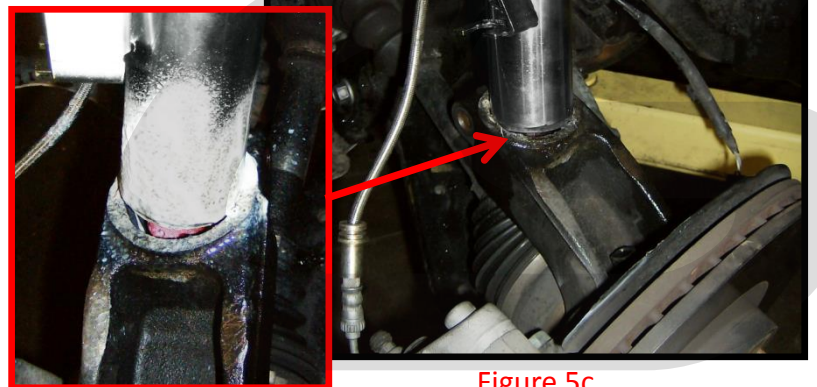

Figure 5c
c) Generously lubricate the strut and knuckle with lithium grease (see Figure 5c).